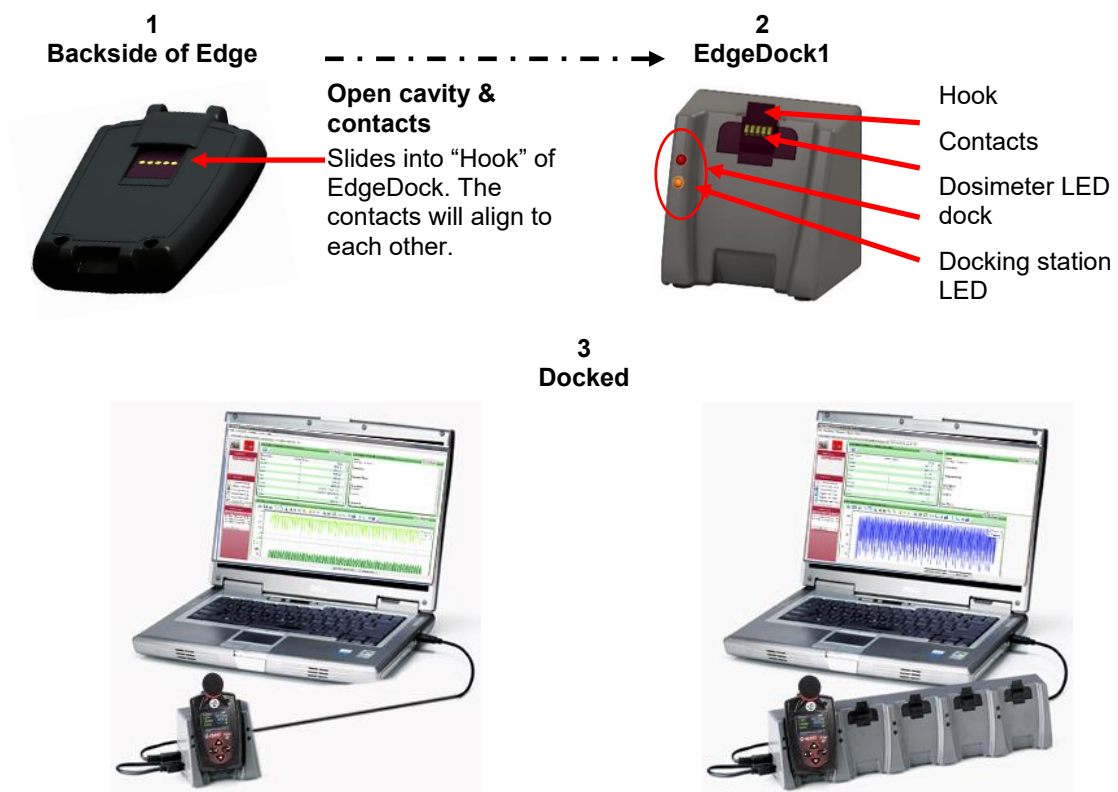

Figure 2-8
2. Slide the Edge (**1**) downward onto the **Hook** of the EdgeDock (see Figure 2-8 below).